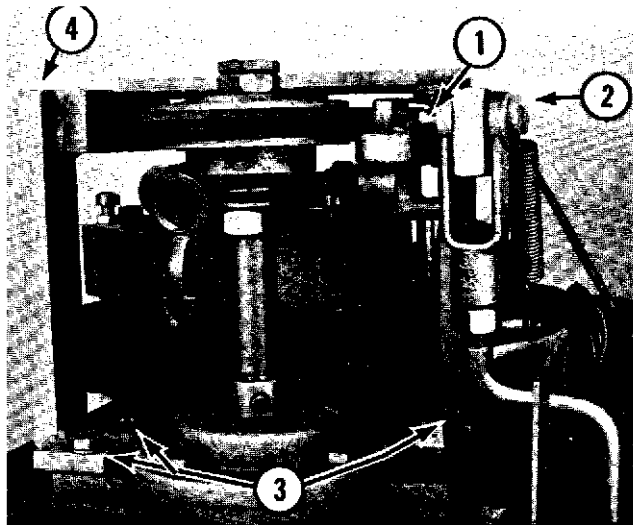

Fig. 12-1
- A. Remove the cotter pin (1, Fig. 12-1) and clevis pin (2, Fig. 12-1) from the brake and clutch arm.
- B. Remove the four bolts (3, Fig. 12-1) and lift the clutch shaft support (4, Fig. 12-1) from the mixer.